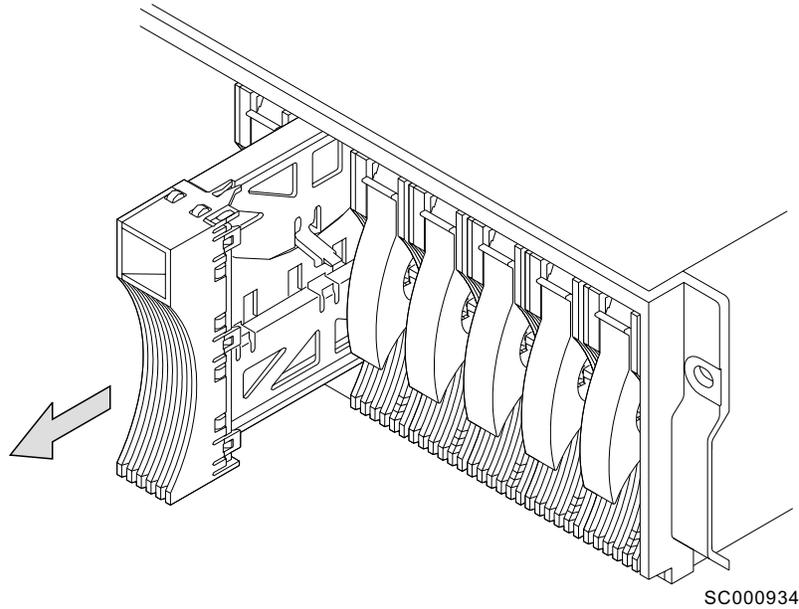

Figure 37. Removing a dummy disk drive module
Figure 37 and Figure 38 on page 25 show a 2104 Model DS4. The steps for adding a disk drive module into a 2104 Model TS4 are the same, but the parts are turned 90 degrees.
1. Pull the dummy disk drive module from the 2104 Model DS4. See Figure 37.